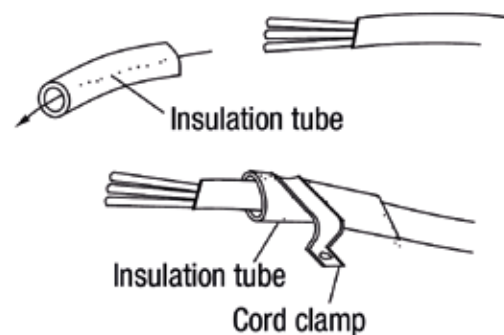

Fig. 31
- How to secure the connection cable and power cable with a cable clamp. After running the connection cable and power cable through the insulating tube, secure it with the cable clamp. (Fig. 31)